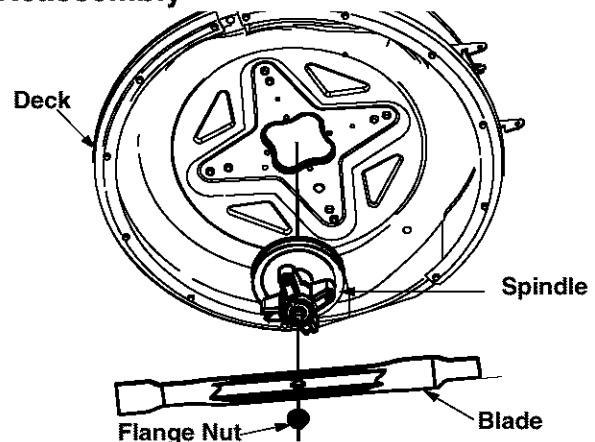

Figure 17
- Remove blade from the spindle. See Figure 17.
- Tighten the flange nut securely. See Figure 17.